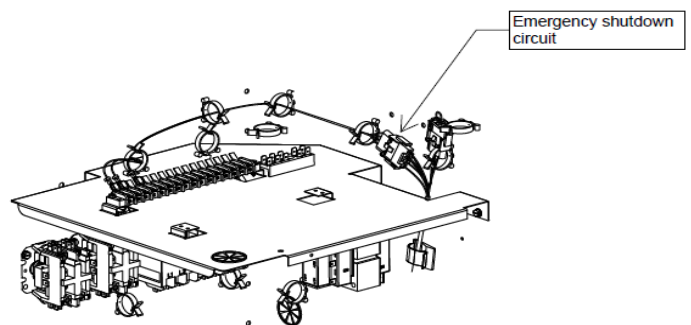

FIGURE 24
- Route the remaining harness from the AG-3180E towards the top of the control box to the emergency shutdown circuit shown in Figure 24.